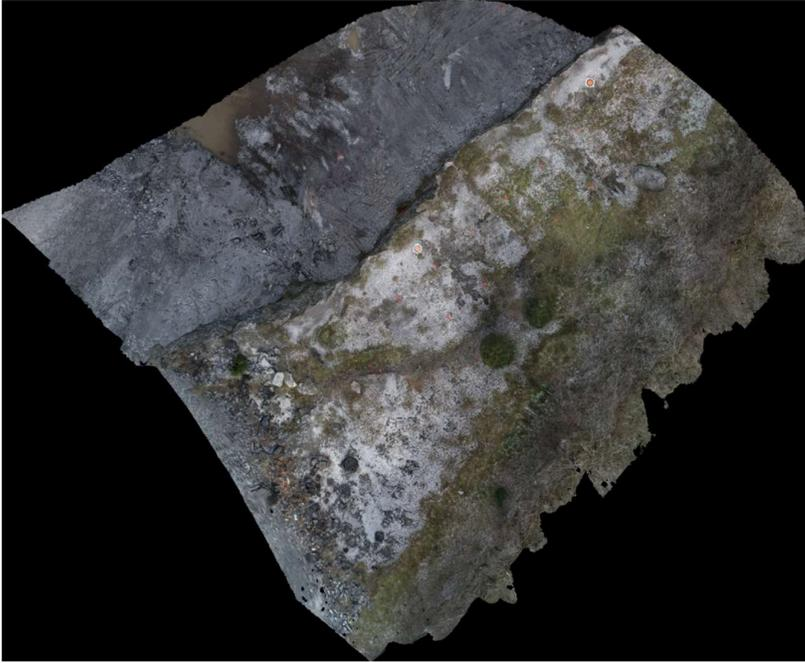

Figure 46: Ortho-photo generated by the MultiPhoto
- Ortho-Photo (“.png”; Figure 46)
- GeoTIFF: writes a public domain metadata which has the geo-referencing information (“dem.tif”) embedded with the image file (“ortho.tif”) in standard definition (SD) or high definition (HD)